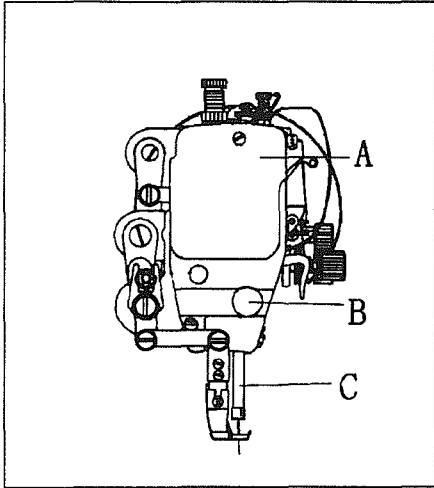

Fig. 18
## 16. TIME NEEDLE TO ROTATING HOOK ( Fig.18,19,20,21 )
A. Adjusting the needle position ( See Fig.18 )
- 5) After the adjustment, tighten Set Screw ( B ) and put in the rubber plug. The standard needle timing ( See Fig.18 ) is to align Timing Mark ( B ) on the needle bar and the bottom of Needle Bar Bushing ( A ) and meanwhile align the Inner Surface ( E ) of the hook and the center of Needle Eye ( D ) when the needle bar gets down to its lowest position.